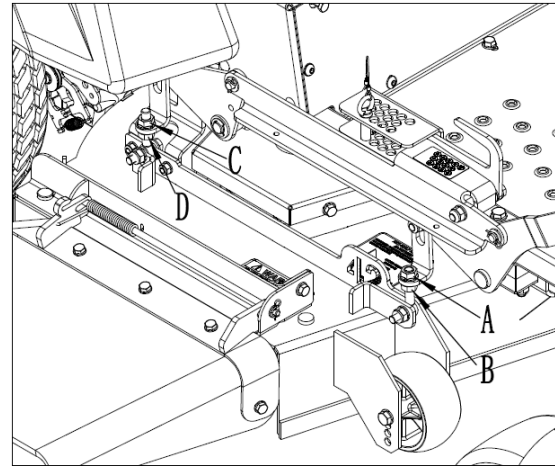

Fig. 18
- Locate the level adjust nut (A) and nut (B) on the front right mower deck hanger (Refer to Fig. 18).
- Slightly loosen the nut (B) on the mower deck hanger.
- Adjust the mower deck up or down as required to match the right front by turning the level adjust nut (A) clockwise to raise and counter-clockwise to lower.
- Adjust the level adjust nut (A) until blades on both sides are the same height above the level surface.
- With blades leveled side to side, tighten the nut (B) securely.